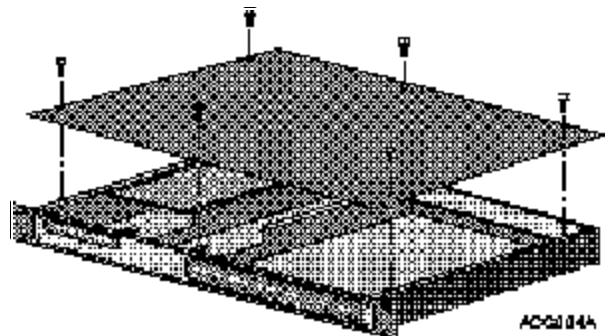

Figure 1. Remove the Top Cover
3. Remove the six phillips screws holding the top cover to the chassis and remove cover. (See Figure 1)